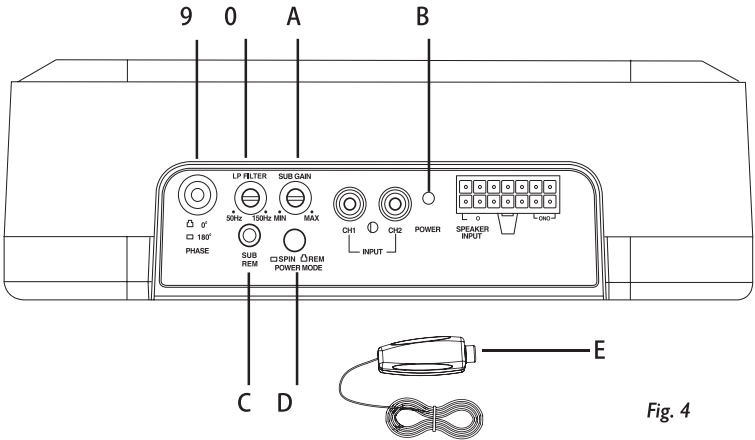

Fig. 4
SWITCH SETTINGS (Fig. 4)
- Please check your head unit for the conditions listed below: (Fig. 4)